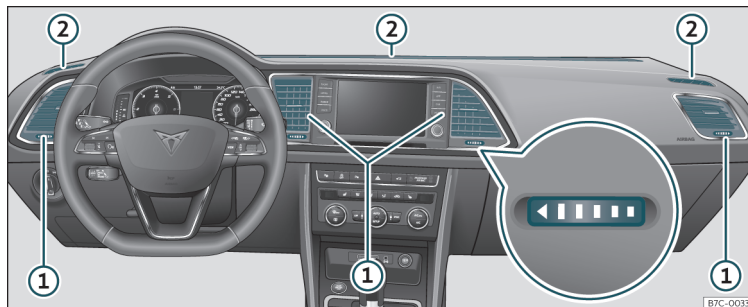

Fig. 149 On the dash panel air vents.
To ensure proper heating, cooling and ventilation in the vehicle interior, air vents >>> Fig. 149 ① should remain open.